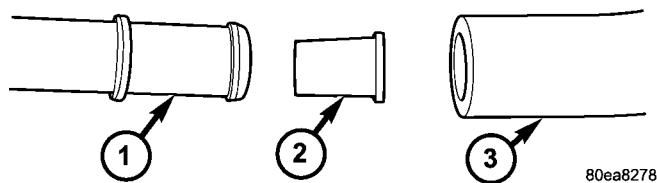

Fig. 2 RESTRICTOR LOCATION
3. Install the new restrictor into the coolant tube as shown in (Fig. 2)